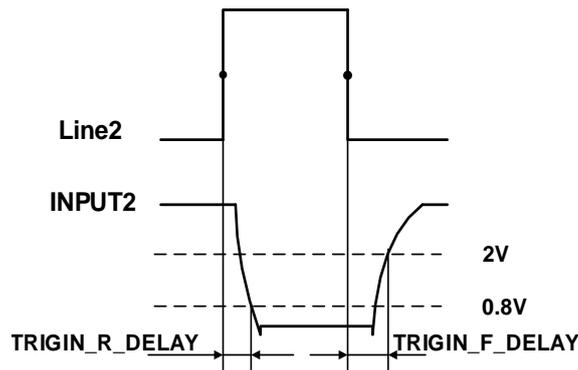

Figure 7-18 Parameter of Line2 input circuit
- Input rising time delay: <math><2\mu\text{s}</math> ($0^{\circ}\text{C}\sim 45^{\circ}\text{C}</math>), parameter description as shown in Figure 7-18$
- Input falling time delay: <math><2\mu\text{s}</math> ($0^{\circ}\text{C}\sim 45^{\circ}\text{C}</math>), parameter description as shown in Figure 7-18$